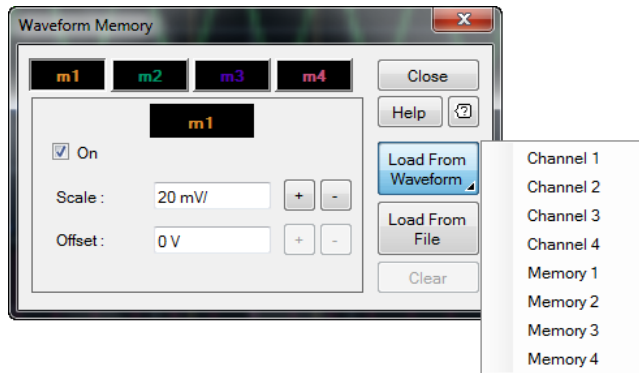

Figure 2-50 Load from waveform selection
- 4 Select **Load From Waveform** to load the waveform from channel 1 to 4 or waveform memory as shown in Figure 2-50. The waveform memory selection is only available if the waveform memory is enabled.